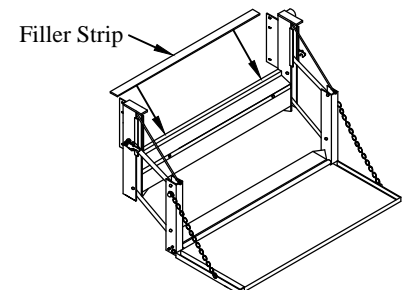

Figure 10: Filler strip placement.
- 3. Weld** the filler strip to the liftgate with the weld side facing down (Figure 10).